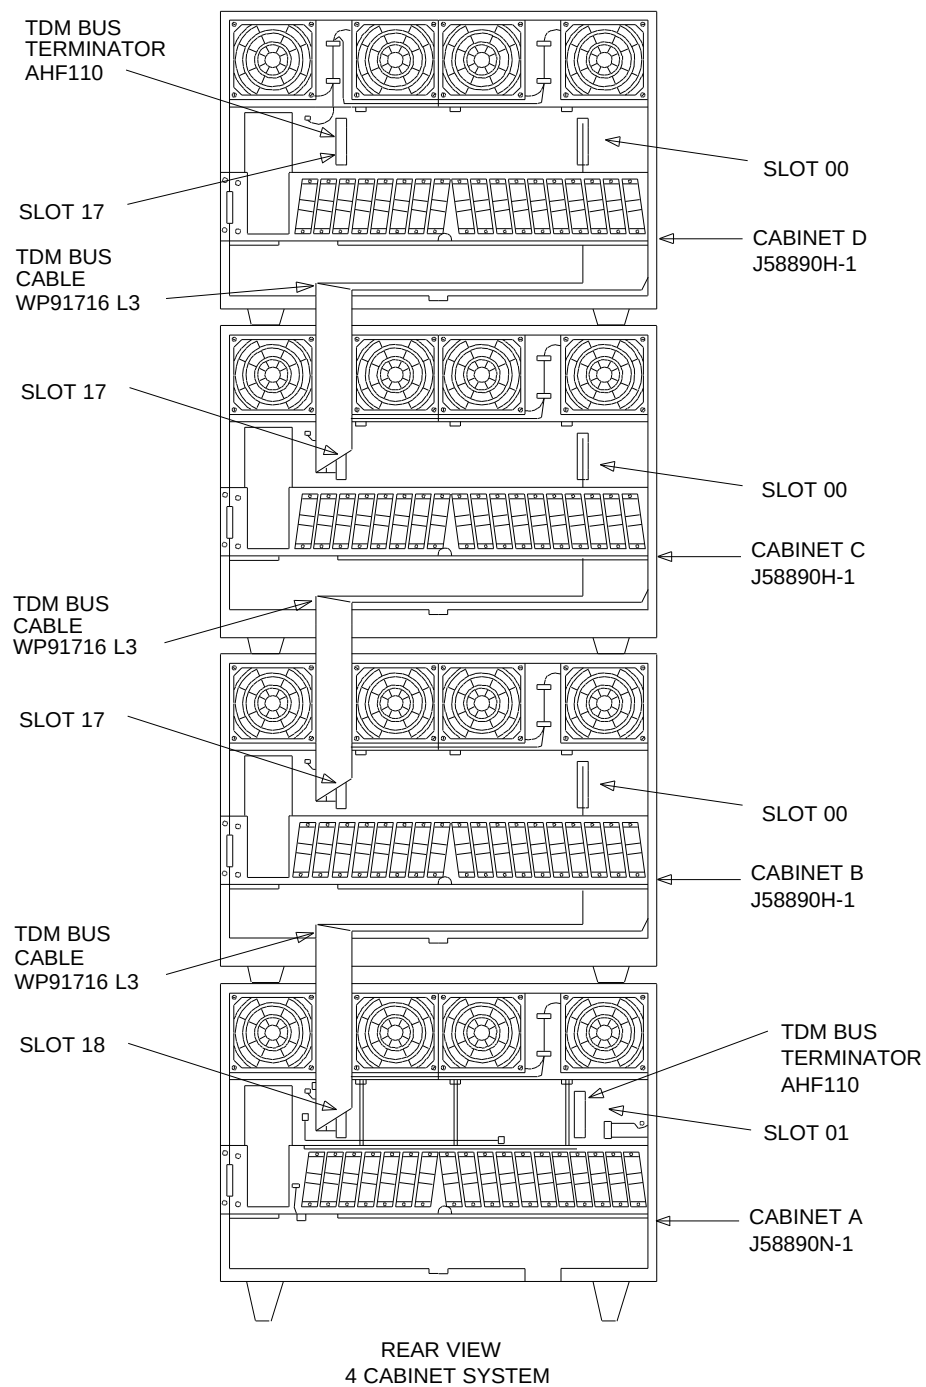
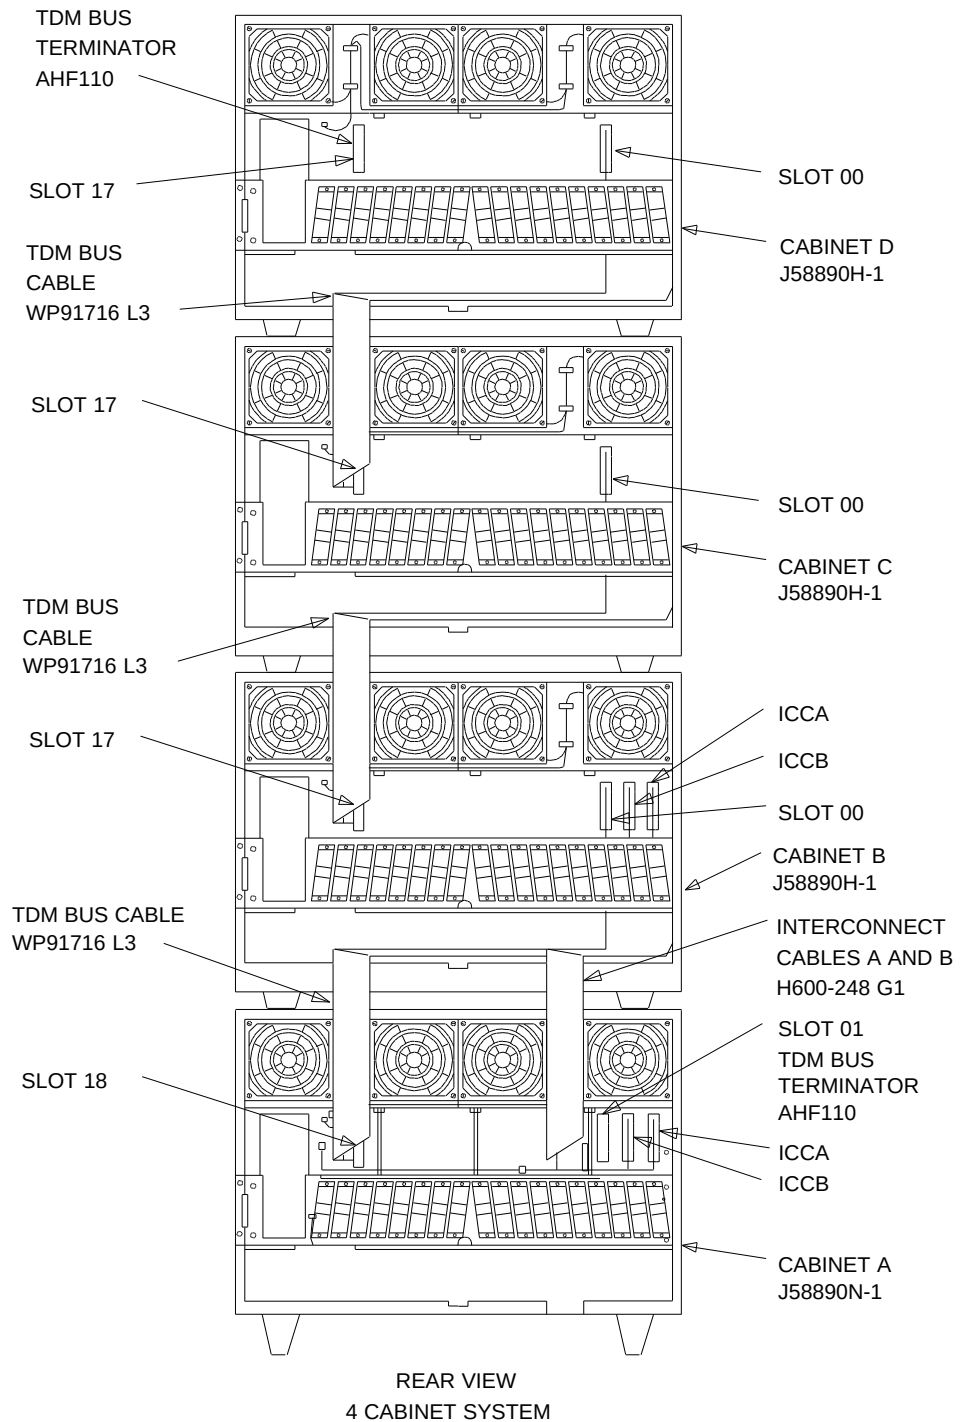

Figure 3-21. TDM Bus Connections for Standard-Reliability EPN
Figure 3-22. TDM Bus Connections for High or Critical-Reliability EPN
1. Remove the TDM bus terminator on slot 18 of control cabinet A, and move it to slot 17 on the top port cabinet (see Figure 3-21 or 3-22).
2. Connect TDM bus cables as shown in Figure 3-21 (standard reliability) or Figure 3-22 (critical reliability). The TDM bus cable is located behind the lower panel.
3. Connect intercabinet cables for high or critical-reliability EPN(s) as shown in Figure 3-22 and Table 3-1.